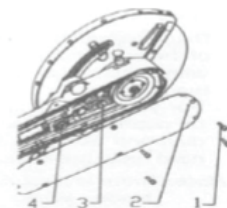

Fig 6
III. Tightening the trapezoidal belt (ref. Fig. 6) • Loosen and remove the Hex Screws (1) from the transmission case and remove the transmission case cover (2). • Loosen the three Hex Screws (5) from the bearing support. • Turn the Tightening Nut (6) clockwise (or turn the Adjustment Screw (3) clockwise) until the trapezoidal belt is tightened. • Tighten the three Hex Screws (5) from the bearing support. • Mount the transmission case cover (2), fix and tighten the Hex Screws (1).